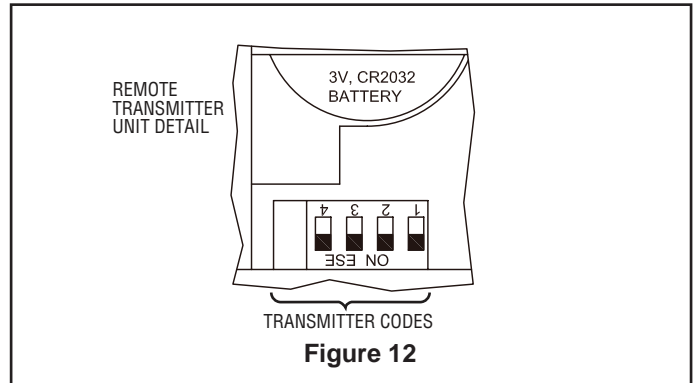

Figure 12
- 1. To set the transmitter code, remove battery cover by pressing firmly below arrow and sliding cover off. Slide code switches to your choice of up or down position. Factory setting is all up. Do not use this position. With a small screwdriver or ball point pen slide firmly up or down. Replace battery cover on the transmitter (Figure 12).